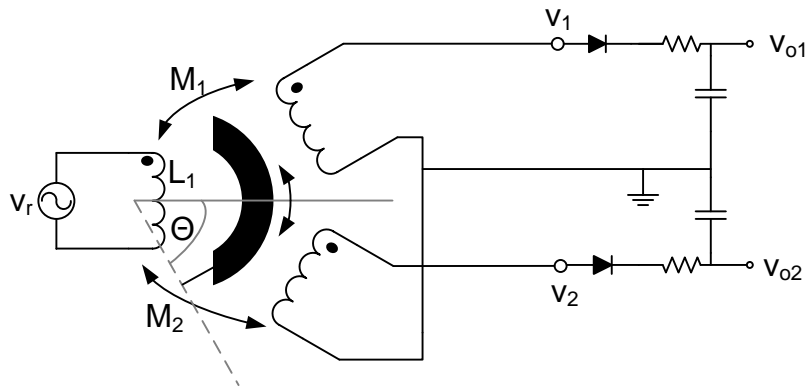

Figure 4: Double-sided rectifier with low-pass filter.
- (e) In stead of a phase sensitive detector, it is also possible to connect the output signal of the RCDT to a double-sided rectifier with a low-pass filter as is shown in Figure 4. Is it possible to reconstruct from the output signal ( $v_{o2} - v_{o1}$ ) the direction (positive or negative angle)? (Explain your answer.)